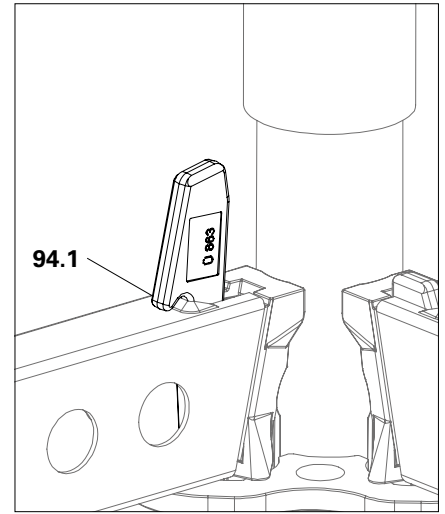

Fig. A2.01a
If the wedge does not fall, push the wedge nose (**94.2**) down from the horizontal ledger by hand. (Fig. A2.01a)
2. Lift out the wedge and place it on the horizontal ledger together with the wedge nose. (Fig. A2.01a)